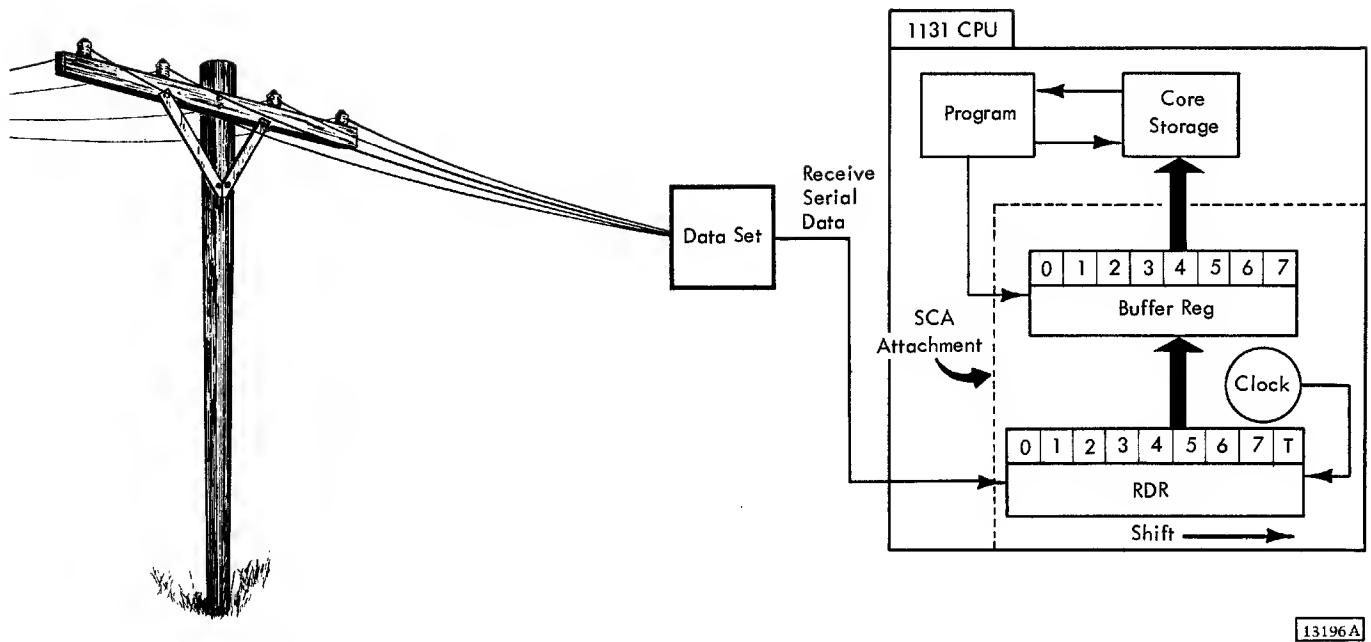

Figure 6-6. Receive Operation
- Data flow for receive operations is shown in Figure 6-6.